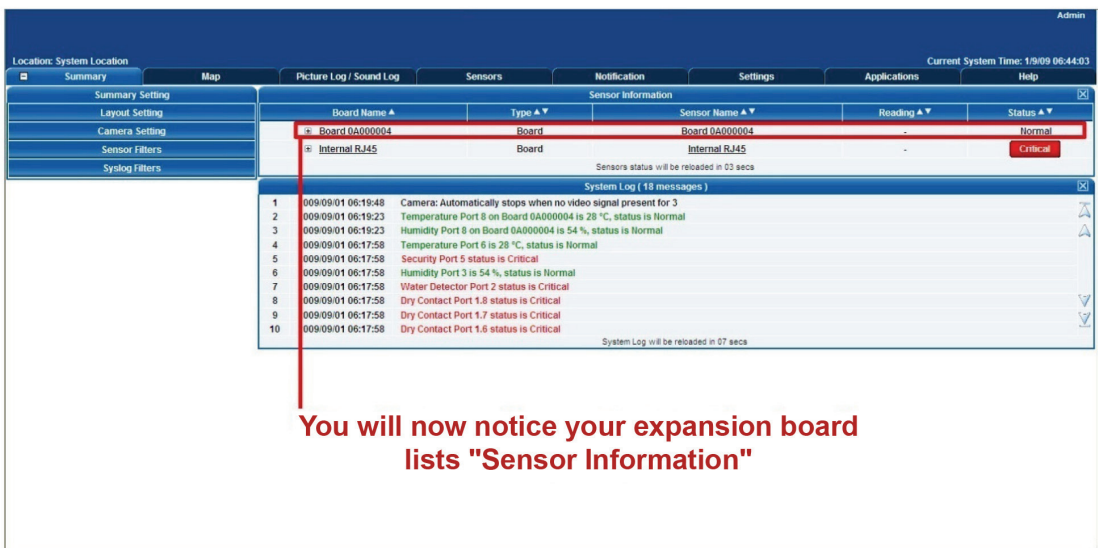

Figure 3-6. Summary page.
3. Log in as the administrator using your administrator password (the default is “public”). The Summary page will appear as shown in Figure 3-6.